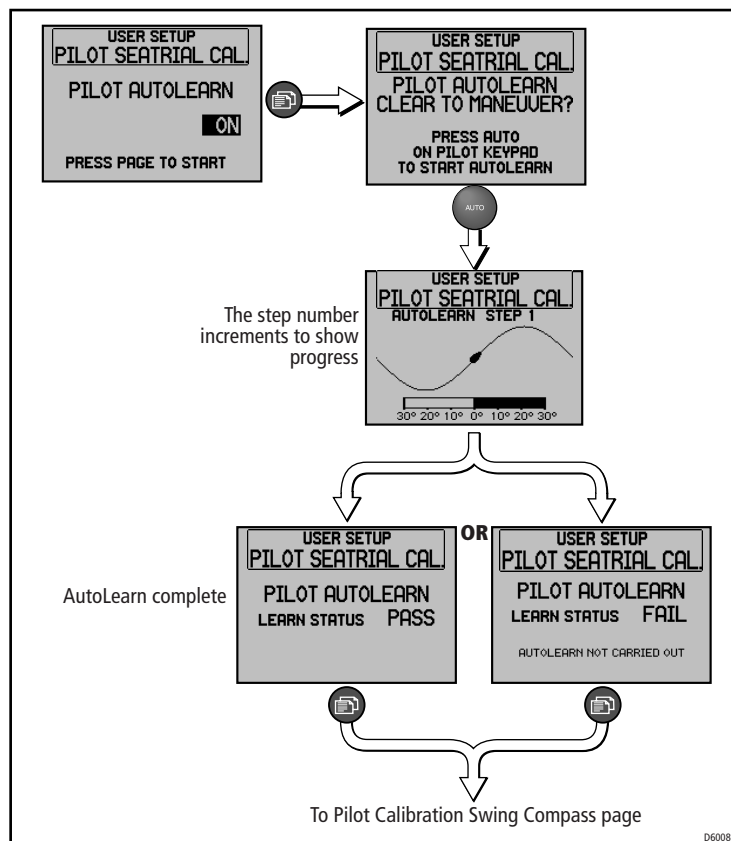

Figure 4-9: Using AutoLearn
1. Use the  button to scroll to the PILOT AUTOLEARN screen in Seatrial Calibration (*Figure 4-9*).